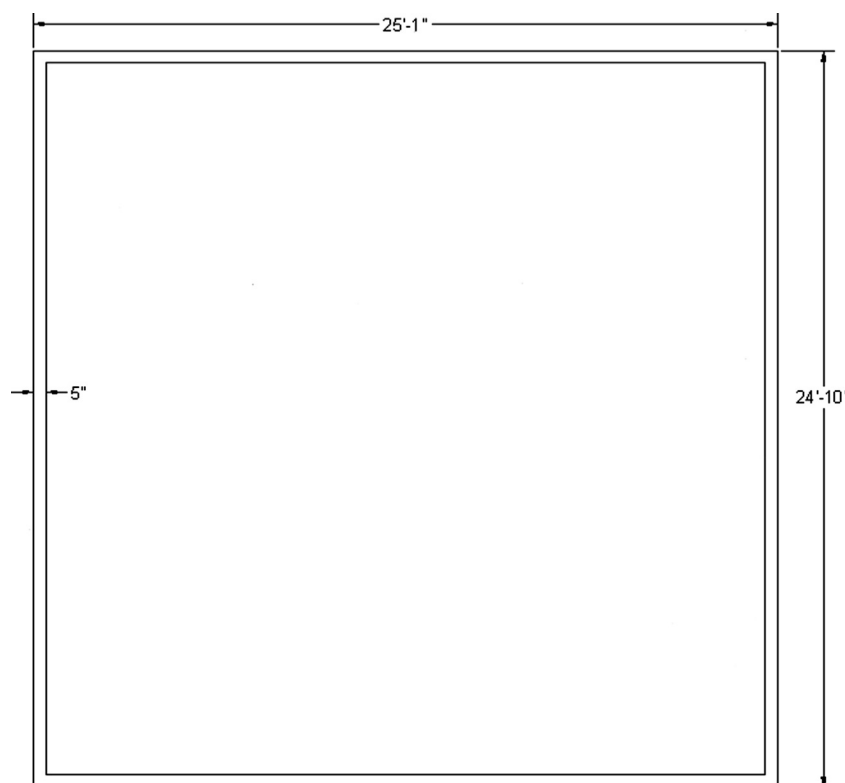

FIGURE 3.14
7. Explode both wall rectangles. This is needed to break apart the rectangles for use as the basis for the interior walls as well as doorways and windows. You should now have a total of eight individual lines, as seen in Figure 3.14.